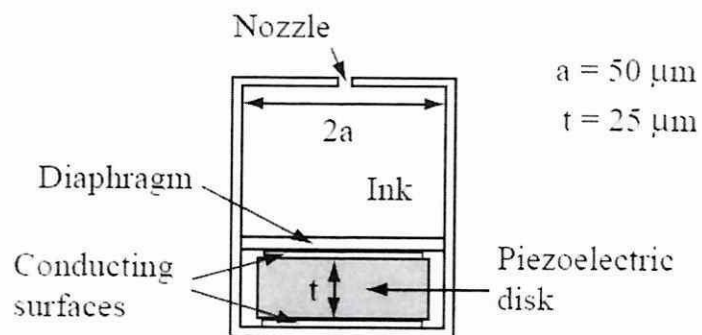

Figure Q4 (b)
- (b) To produce an inkjet as part of an inkjet printing cartridge, a small cylindrical chamber is made and the ink is expelled through the action of a piezoelectric device. The arrangement is shown in **Figure Q4 (b)**, where the bottom of the chamber is sealed with a diaphragm and a piezoelectric disk is placed between the substrate and diaphragm. When a voltage V is applied, the piezoelectric disk expands (positive piezoelectric coefficient), decreasing the volume of the chamber and expelling the ink. The piezoelectric disk is made of PZT with a piezoelectric coefficient of $374 \times 10^{-12} \text{ C/N}$, a relative permittivity of 1700, and a thickness of $25 \mu\text{m}$. A voltage of 3.6 V is applied across the disk when operated. The upper and lower surfaces are coated with aluminum to allow connection of the voltage and to produce a uniform electric field intensity in the material. Assume the ink is water based and hence has the density of water (1 g/cm^3).